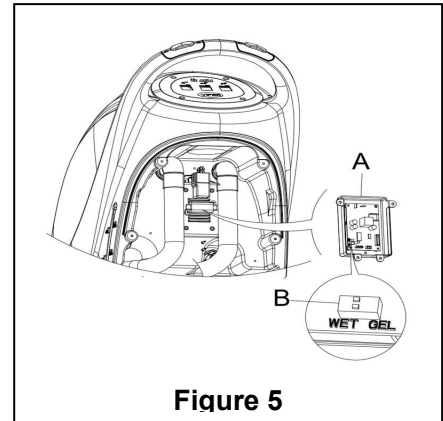

Figure 5
2. Take off draining hose (15)
4. Take off the control cover (5), and the screws of the battery cover (10). Remove the screws on the PCB stand. The DIP switch (B) for setting the battery model can be seen when flipping over the PCB board. (See Figure 5)
5. Adjust the micro DIP switch (B) to the position of “WET”,